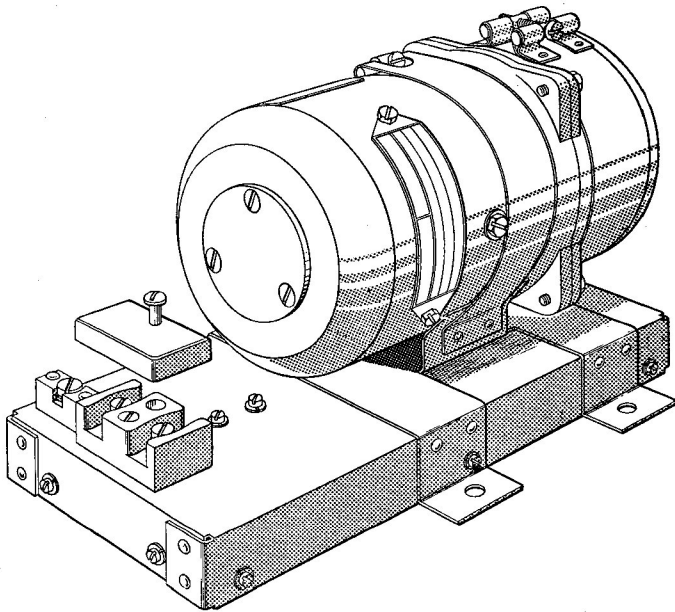

Fig. 1. Rotary inverter, Type 300
1. The rotary inverter, Type 300 (fig. 1), is designed to provide single-phase a.c. for gun-firing installations, and consequently will run only intermittently. With an input of 27.5 volt, d.c., it delivers an output of 50 volt-amps, at 30 to 37 volt a.c., with a frequency of 1,500 c/s, at unity power factor, and a speed of 11,250 r.p.m. The base of the machine incorporates a suppressor unit.